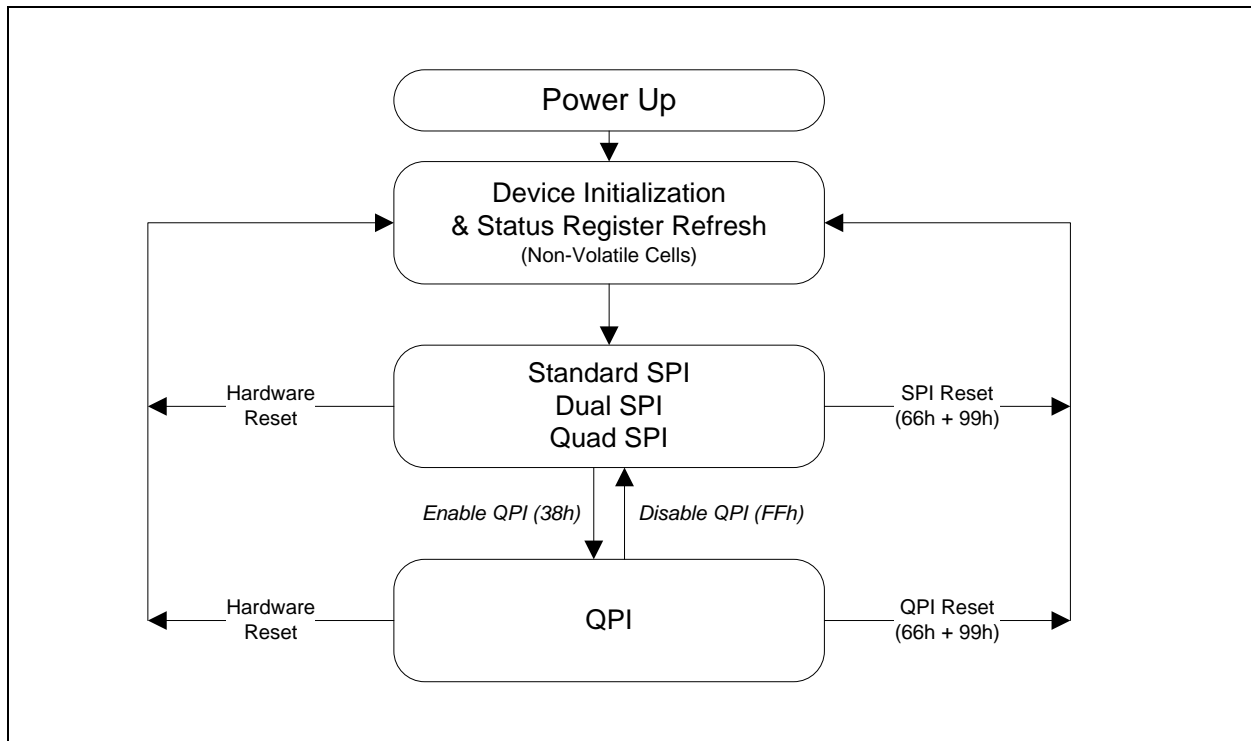

Figure 3. W25Q16FW Serial Flash Memory Operation Diagram
The W25Q16FW supports Quad Peripheral Interface (QPI) operations only when the device is switched from Standard/Dual/Quad SPI mode to QPI mode using the “Enter QPI (38h)” instruction. The typical SPI protocol requires that the byte-long instruction code being shifted into the device only via DI pin in eight serial clocks. The QPI mode utilizes all four IO pins to input the instruction code, thus only two serial clocks are required. This can significantly reduce the SPI instruction overhead and improve system performance in an XIP environment. Standard/Dual/Quad SPI mode and QPI mode are exclusive. Only one mode can be active at any given time. “Enter QPI (38h)” and “Exit QPI (FFh)” instructions are used to switch between these two modes. Upon power-up or after a software reset using “Reset (99h)” instruction, the default state of the device is Standard/Dual/Quad SPI mode. To enable QPI mode, the non-volatile Quad Enable bit (QE) in Status Register-2 is required to be set. When using QPI instructions, the DI and DO pins become bidirectional IO0 and IO1, and the /WP and /HOLD pins become IO2 and IO3 respectively. See Figure 3 for the device operation modes.